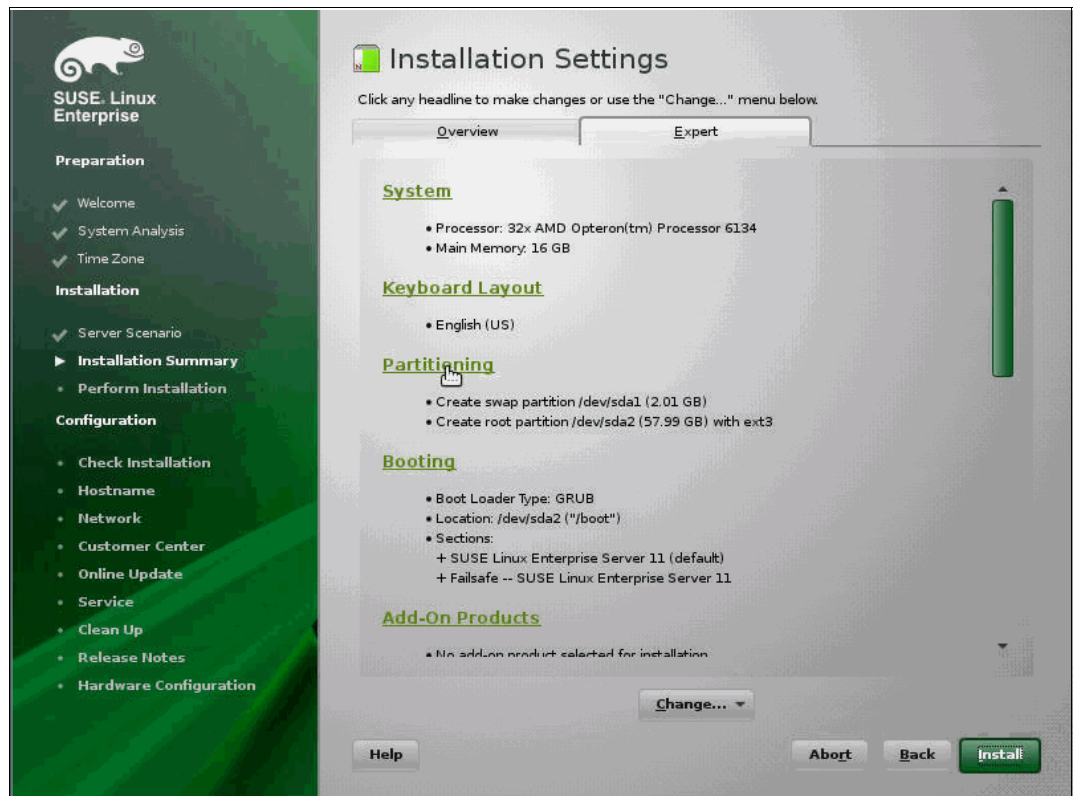

Figure 2-94 SUSE Linux Enterprise Server Expert tab
1. The first part of the installation is done with default settings, and we have not included the panels. When you get to the **Installation Settings** section, you will need to make changes. On the **Expert** tab, click the **Partitioning** hyperlink in the middle of the window, as shown in Figure 2-94.